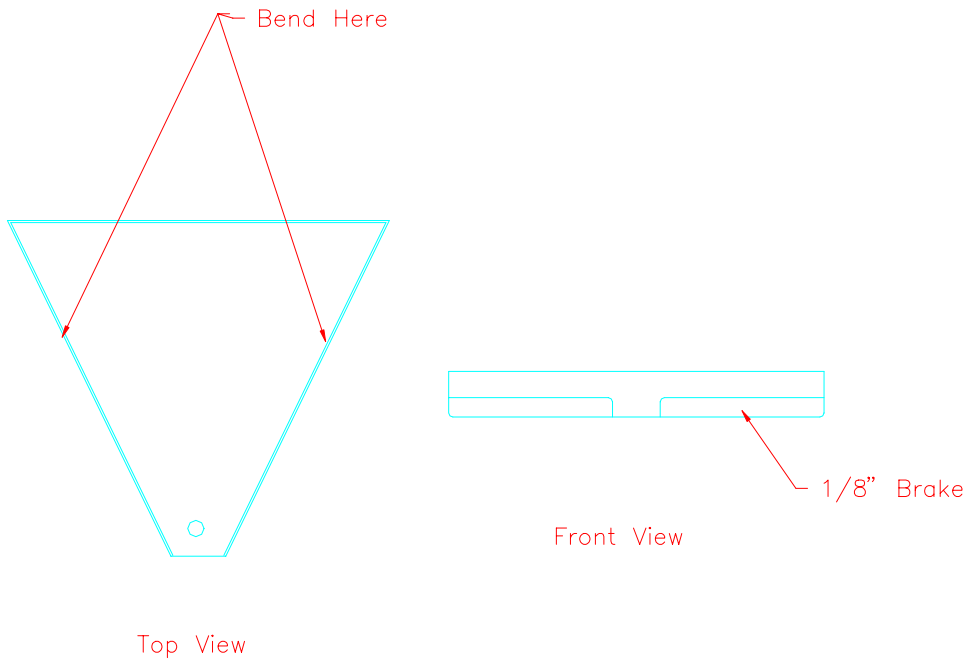

Figure 15.6.9
12) Apply a break along two edges of the Bell Crank Brace. Figure 15.6.9.